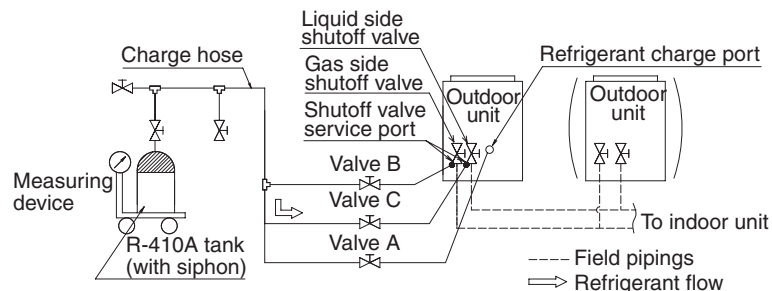

figure 31
3. Open the valve C (See the figure 31. The valve A, B and the liquid and gas side shutout valve must be left closed), and charge the refrigerant of the "additional charging amount" from the liquid side shutout valve service port.